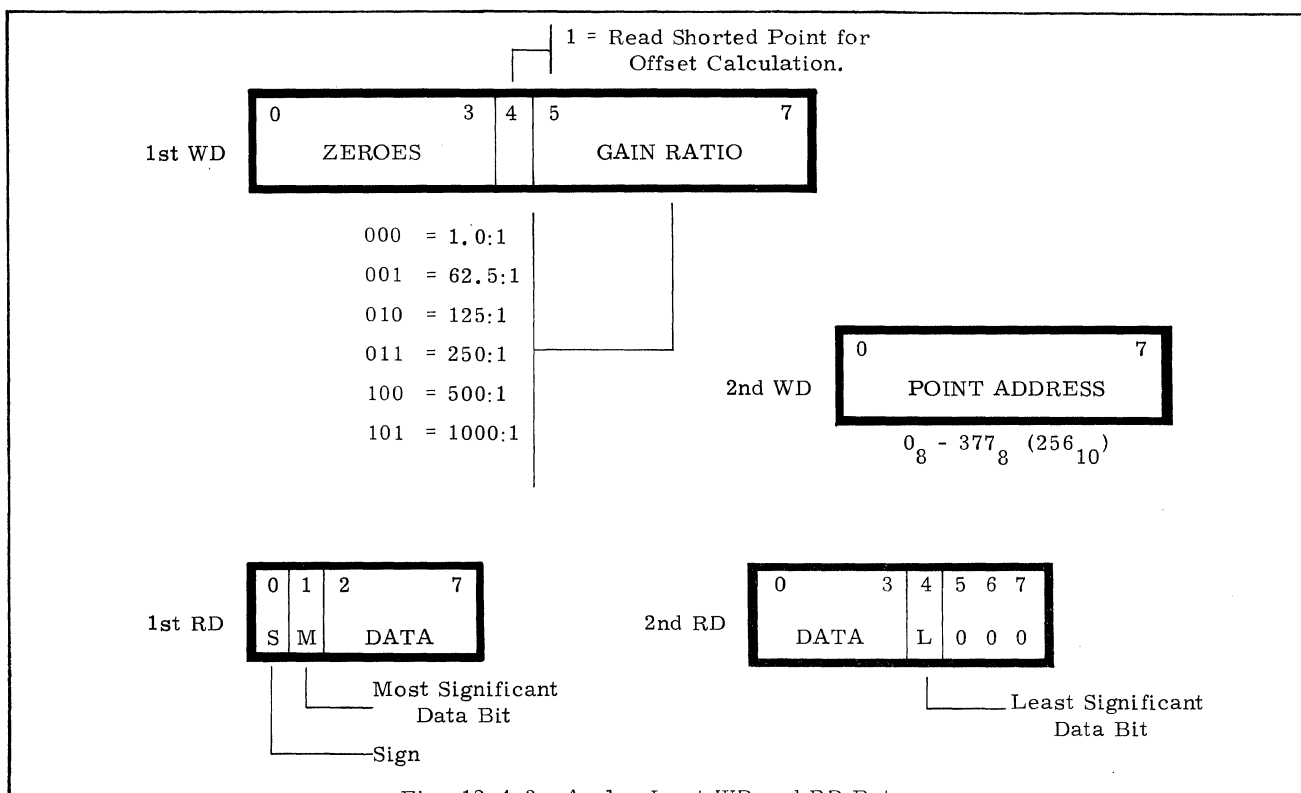

Fig. 12.4-3 Analog Input WD and RD Bytes
The first Write Data (WD) instruction addressed to the Analog I/O Controller after it has been placed in the Analog Input mode, transfers a byte which specifies the Programmable Amplifier gain, if that option is implemented. The first WD also enables the relay multiplexer (unless bit 4 was set), and sets the byte counter to 01 (Fig. 12.4-3).
A second WD specifies the point to be selected (Fig. 12.4-3), sets the EOM and BUSY status bits, and resets the byte count to 00. When the conversion is complete status bit I is set, BUSY clears, and the interrupt queue flip-flop sets.
The converted digital data is transferred to the processor by two Read Data (RD) instructions (Fig. 12.4-3). After the first RD, the byte counter goes to 01. When the second RD is executed, the byte counter goes to 00.